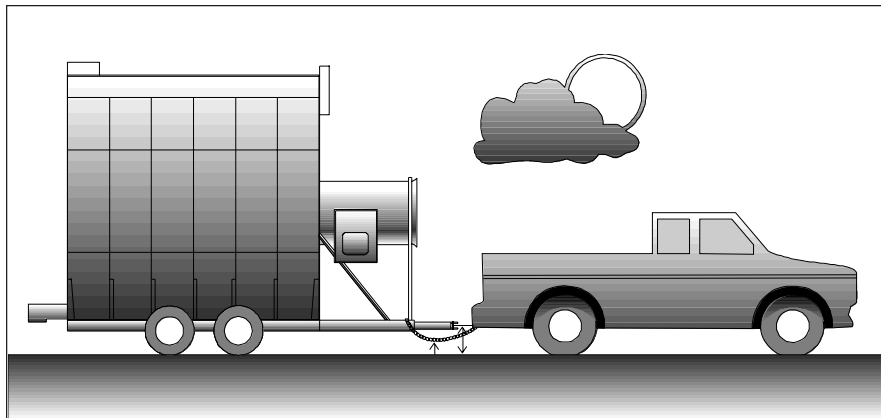

Figure 1: Use a 14-17 inch towing hitch height and a safety chain.
1. Recommended towing hitch height 14-17 inches. (Figure 1)
4. Use safety chain. (Figure 1)